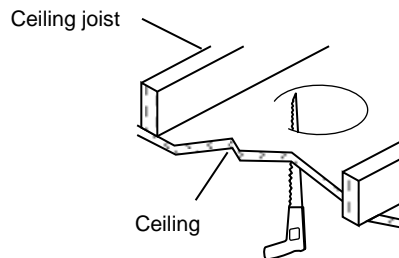

Fig. 1
2. Using a keyhole saw make a 4 1/4" hole in the ceiling surface. (Fig. 1) **(Note:** Be sure not to make the hole any larger than specified by the template. An oversized hole may not allow for proper installation.)